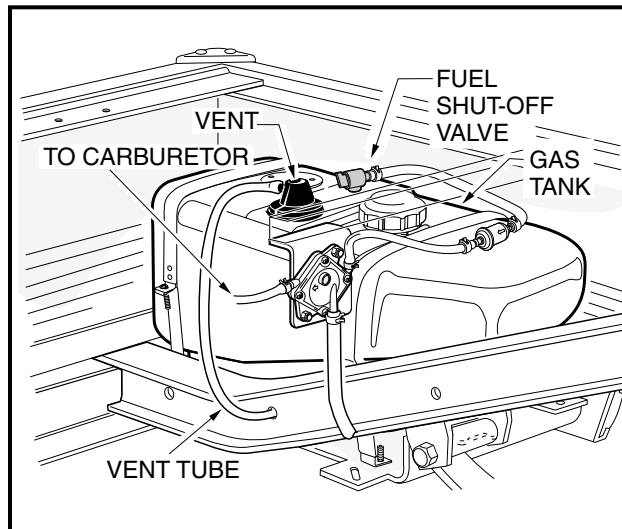

Figure 3-4 Gasoline Tank
- 6.1. Disconnect vent tube from fuel tank vent (**Figure 3-4, Page 3-4**).
- 3.2. Connect vent tube to fuel tank vent (**Figure 3-4, Page 3-4**).